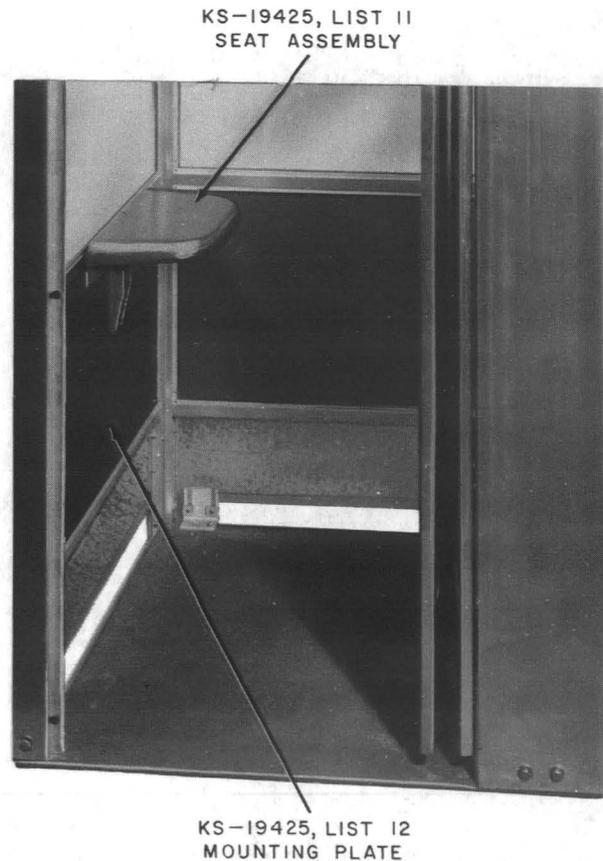

Fig. 8—KS-19425, List 11 Seat Assembly With KS-19425, List 12 Mounting Plate
- 2.21 This booth is designed for standup service; however, a KS-19425, List 11 seat assembly (Fig. 8) may be used if desired.
- 2.22 A KS-19425, List 12 mounting plate (Fig. 8) must be used for mounting the seat.